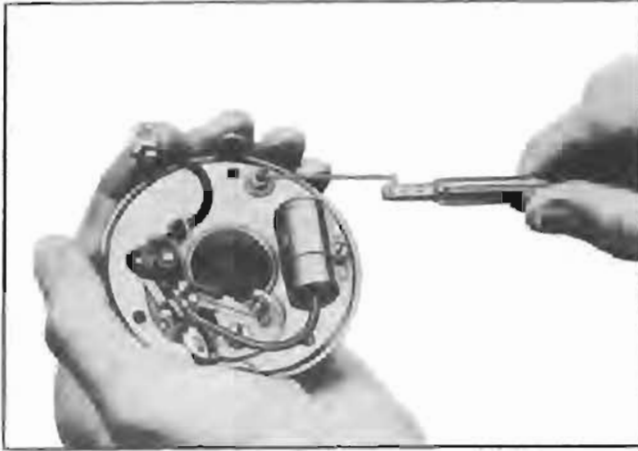

Figure 10-76—Checking Tension on Base Plate
8. Whether breaker plate has been disassembled or not, attach a scale and check the pull required to move the base plate on the support plate. The pull should not exceed 18 ounces nor be less than 11 ounces. See figure 10-76.